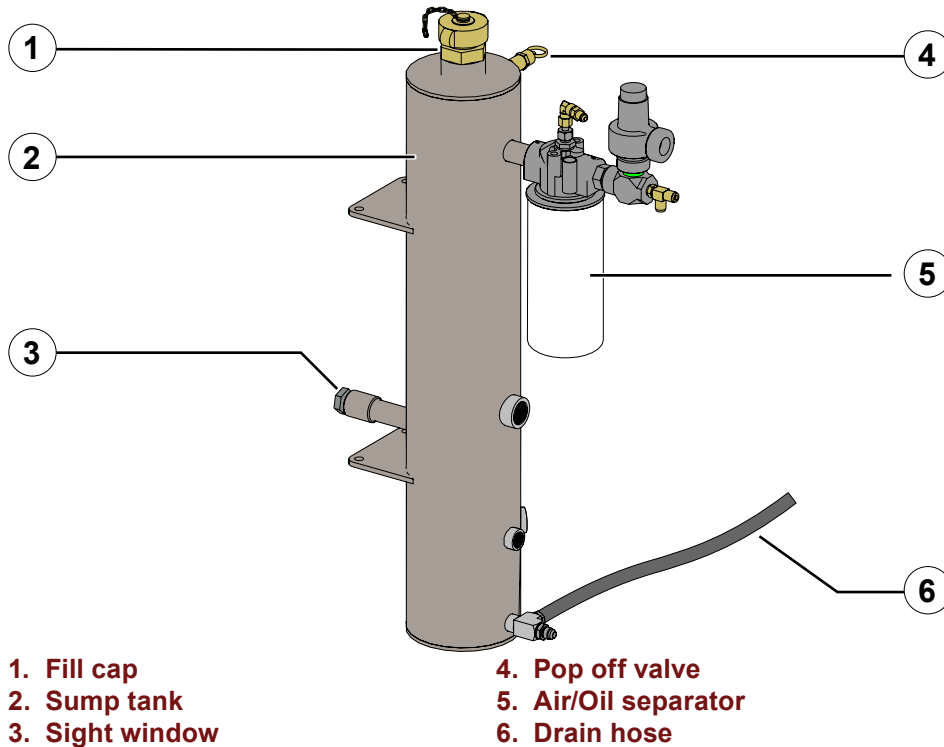

Figure 19
The airline will bleed off over time. Open the auxiliary air outlet to vent the compressed air or pull the pop off valve to immediately relieve pressure (**Figure 19**).
2. Locate the sump drain hose (Figure 19).